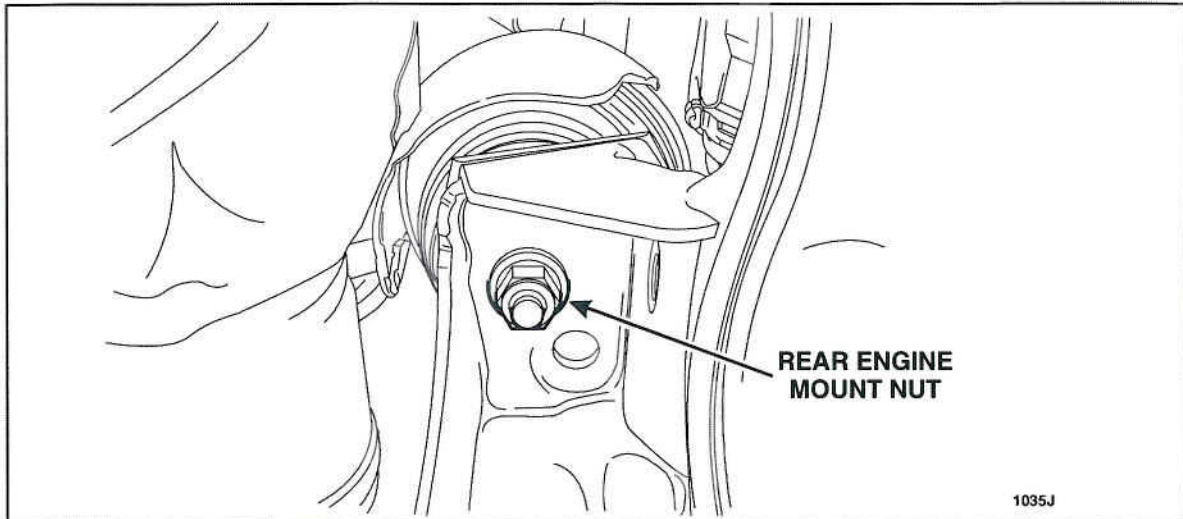

FIGURE 16
36. Remove the rear engine mount nut. See Figure 16.